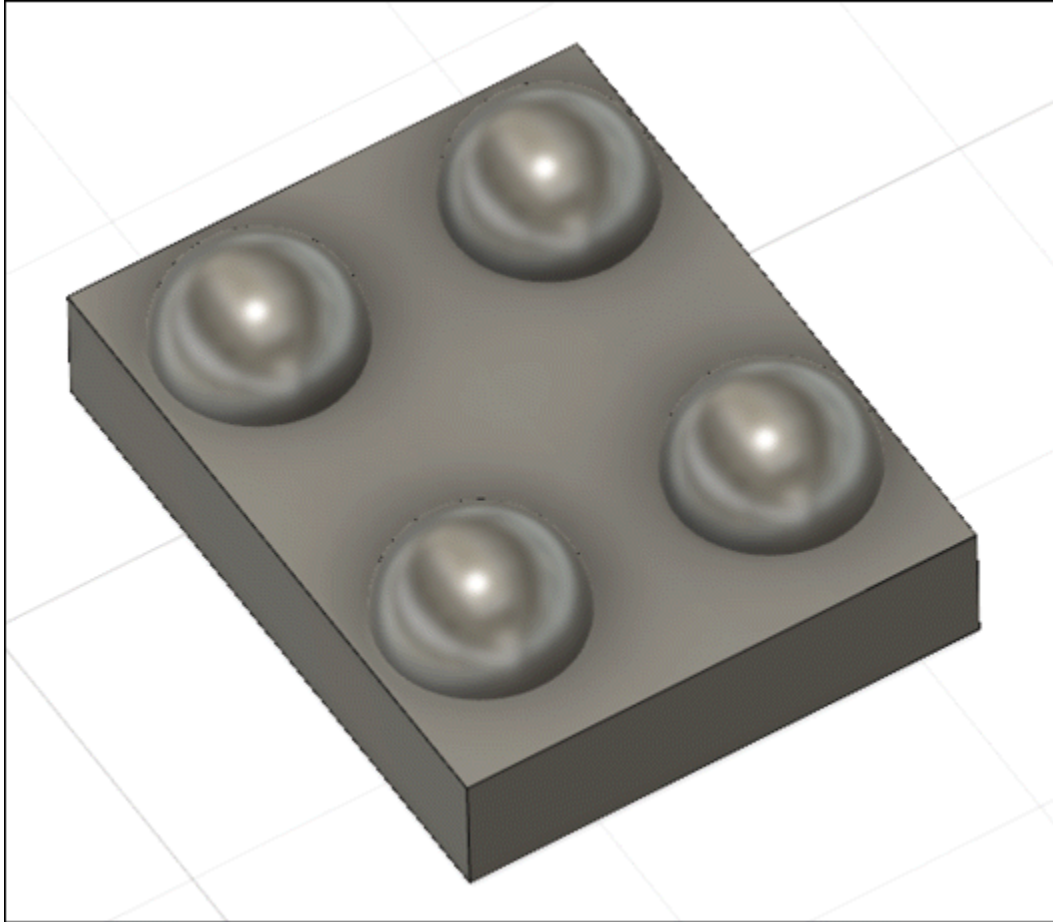

Figure-92. Solid model after applying rectangular pattern tool
- After specifying the parameter, click **OK** button from **RECTANGULAR PATTERN** dialog box to finish the process; refer to Figure-92.